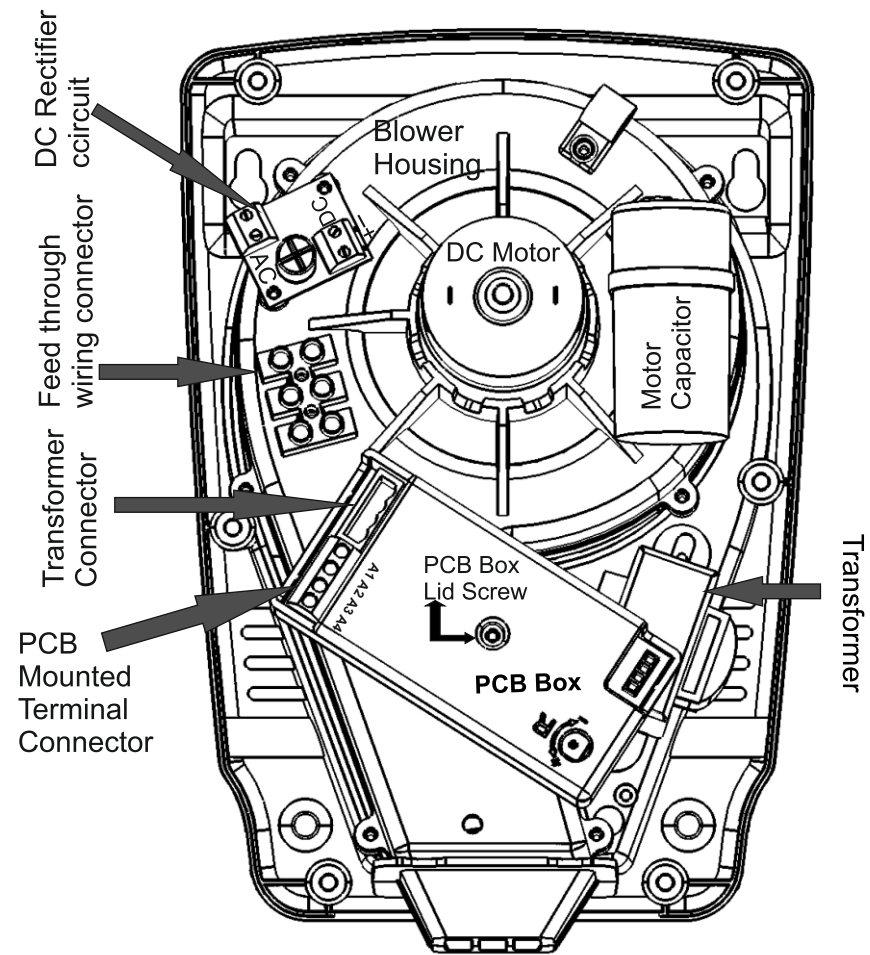

Fig. 7
(Refer Fig. 7 to understand wiring along with below details)
(To better understand A1 A2 A3 A4 positions refer to markings on PCB box in Fig. 7)
- 2) Remove the PCB box lid by removing the screw (Refer Fig. 7).
- 3) Remove the wires that go to the PCB mounted terminal connector (Refer Fig. 7).
- 4) Push the lock of transformer connector (Refer Fig. 7) outwards and pull the connector to remove it.